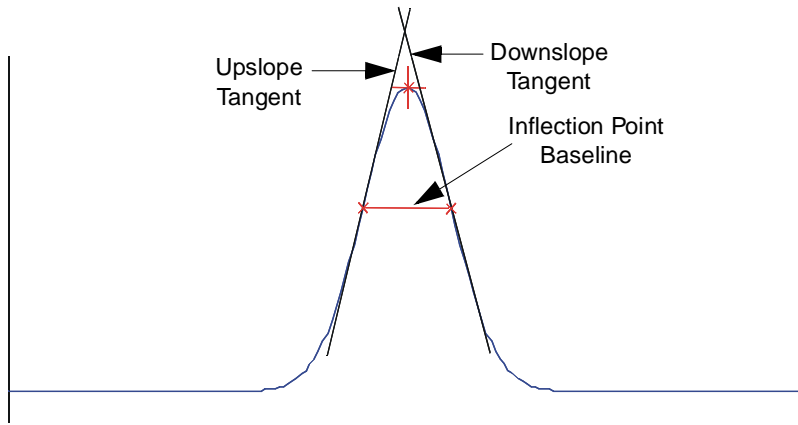

Figure 2-7 Inflection Point Baseline
2. Draws a tangent at each inflection point and draws a baseline that connects the inflection points (Figure 2-7).